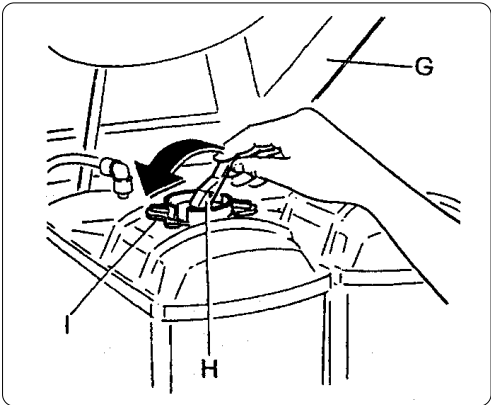

Fig. 15
- Lift the cover (G) and raise the lever (H) to vent the tank and then open the cap (fig. 15).